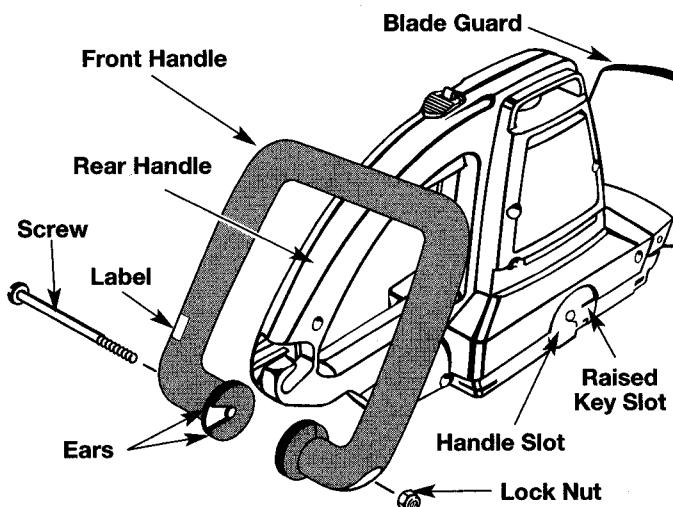

Fig. 1
1. Orient front handle so that the side with the label will be located on the left side of your hedge trimmer (Fig. 1).
2. Place the front handle parallel to the blade guard of your hedge trimmer as shown in figure 1, then fit the ears of the front handle into the handle slots on the motor housing.